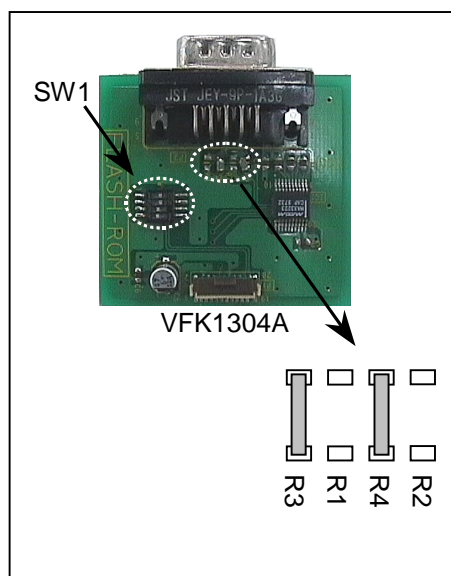

Figure 16-1
2. Connect Flat cable between connector P1 on VFK1304A and connector P2 on CAM_SYS P.C.Board, and then set SW1 on VFK1304A according to Figure. 16-1.
- 2. Connect Flat cable between connector P1 on VFK1304A and connector P6100 on VTR_SYS P.C.Board, and then set SW1 on VFK1304A according to Figure. 16-1.
2. Connect Flat cable between connector P1 on VFK1304A and connector P9811 on VTR MOTHER P.C.Board, and then set SW1 on VFK1304A according to Figure. 16-1.